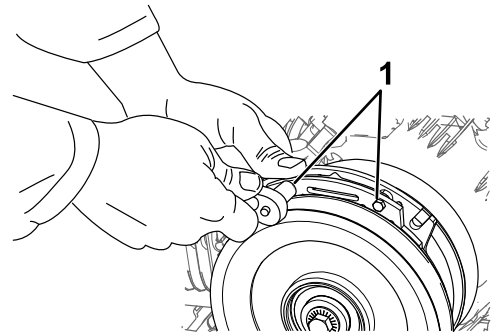

Figure 58
- A. Loosen both brake mounting bolts 1/2 to 1 full turn as shown in Figure 58.